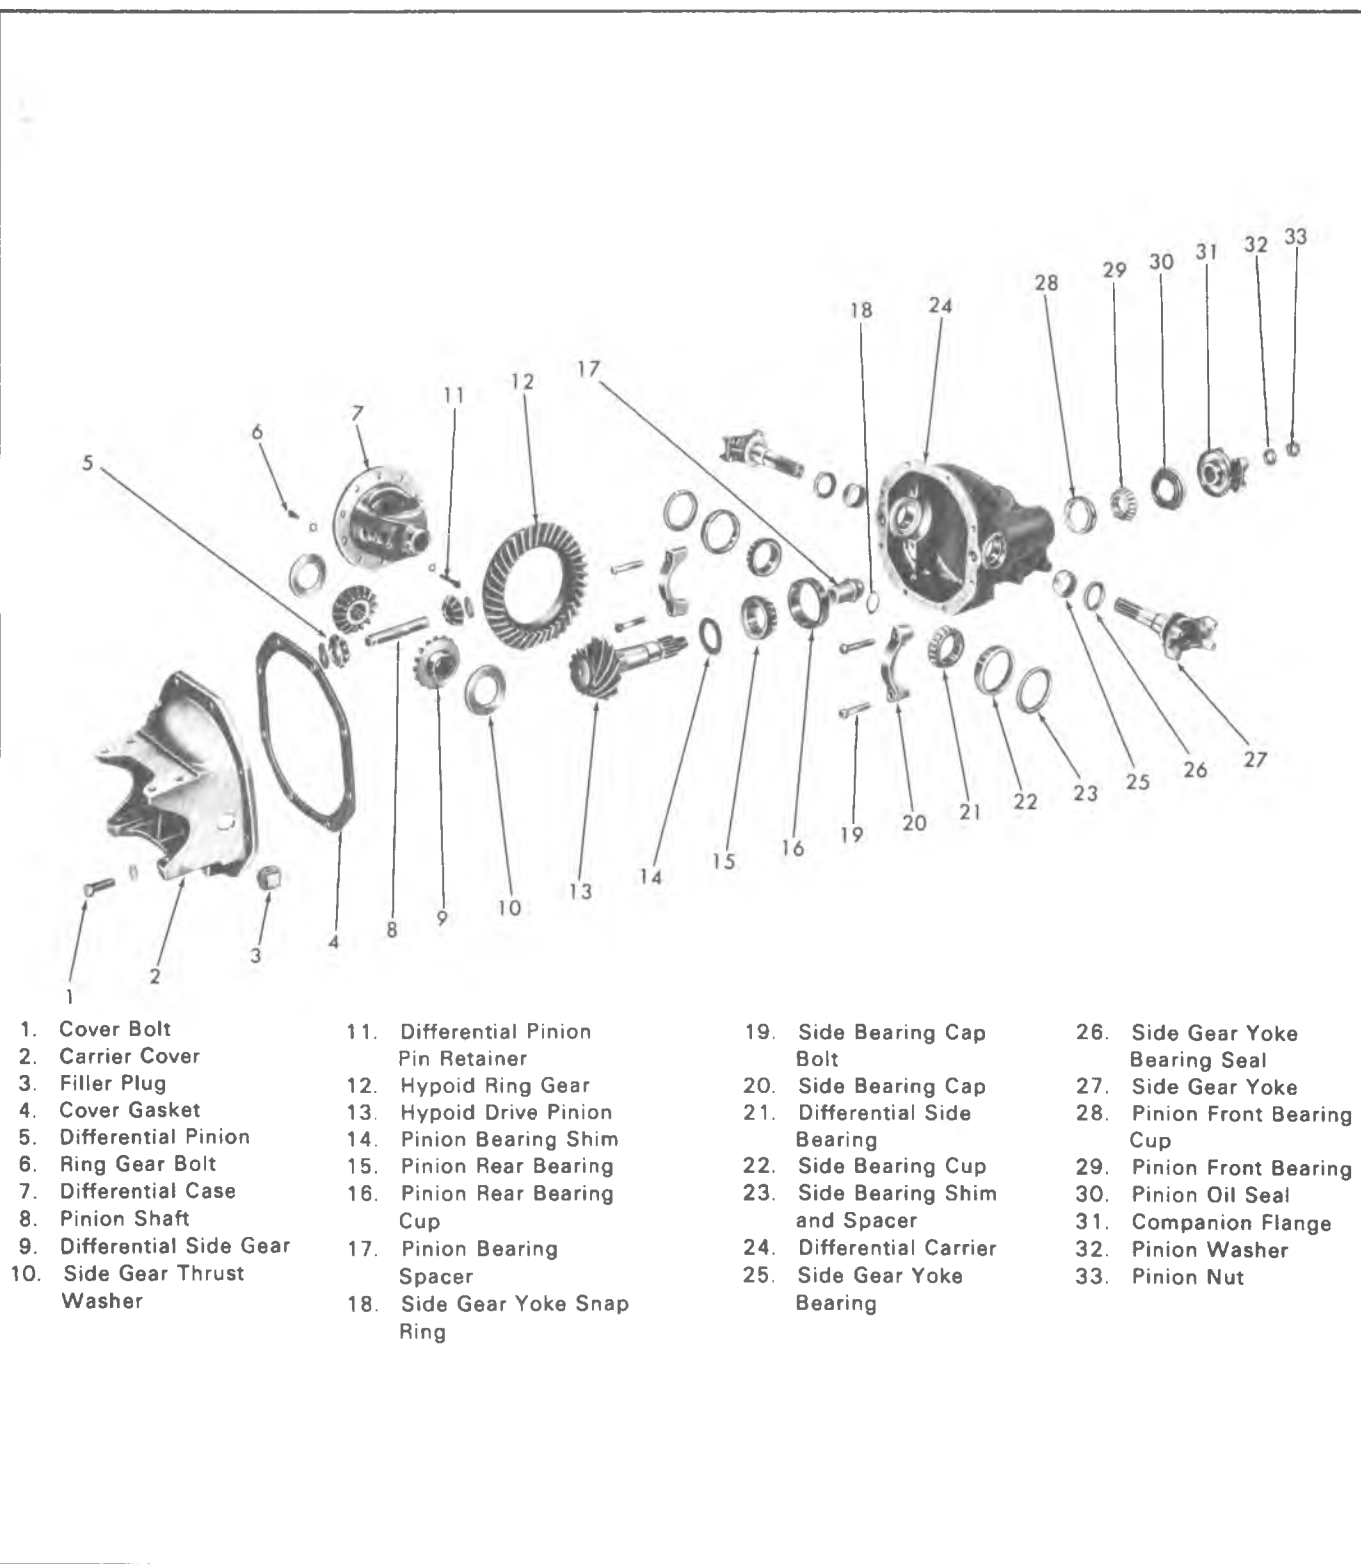

Fig. 1C—Carrier Assembly—Exploded View
2. Remove snap rings securing side gear yokes and pull yokes out of carrier. See Figure 1C.